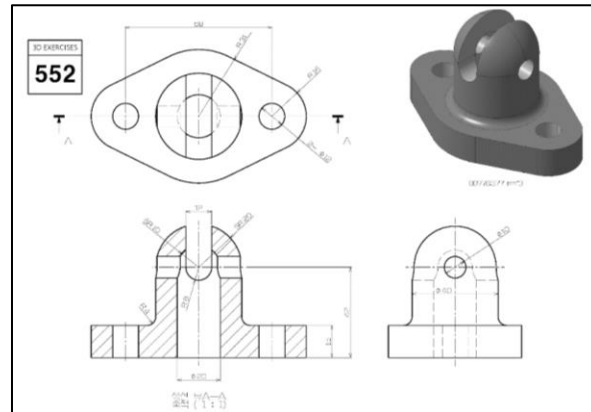

Figure 21: Final Component
14.2 To Utilize the previously mentioned CNC operations to get final part made as shown in figure 21.